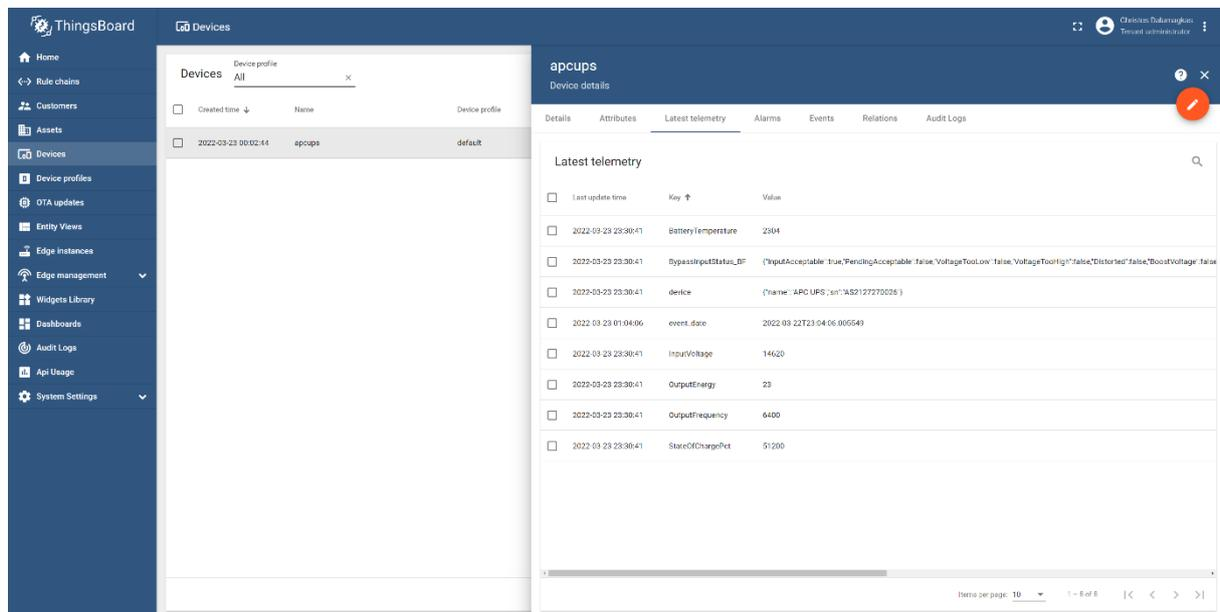

Figure 29: The latest telemetry of the APC UPS
Navigate to the telemetry of the UPS by opening the “Devices” menu and clicking on the UPS device. After that, click on the “Latest telemetry” tab. This tab is depicted in Figure 29 (Please note that some minor differences on the depicted keys are expected). According to the UPS Modbus map, some values need to be divided by a specific scale value, e.g., the StateOfChargePct needs to be divided by 512 to retrieve the human-readable value (100). This information is provided in Table 1. Moreover, the BypassInputStatus_BF object needs to be parsed and separate the nested keys. This is because other components of ThingsBoard (e.g., widgets) does not process JSON objects.